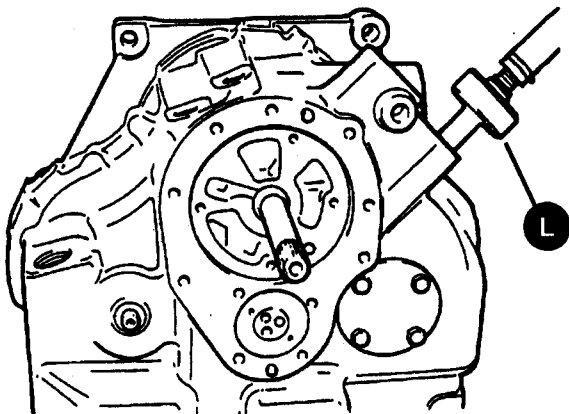

Figure 28.
**NOTE:** The main shaft clutch must be engaged to carry out this check. To engage the clutch, install airline adapter L, as shown in Figure 28 and apply low pressure compressed air.